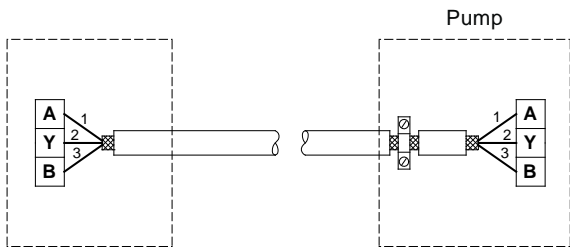

Fig. 6 Connection with shielded 3-core cable
- If the unit has no cable clamp as shown in fig. 6, the screen is left unconnected at this end.